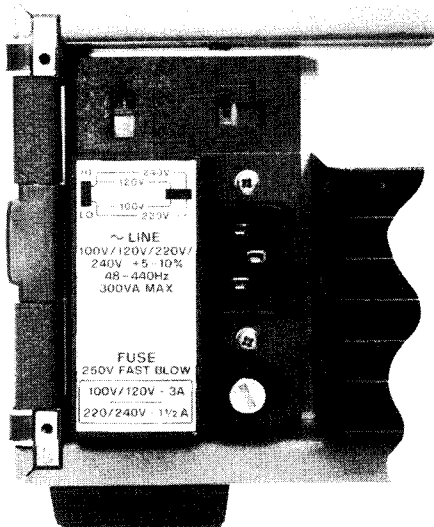

Figure 2-1. Line Voltage Selection Switches
- b. Using a blade-type screwdriver, position rear-panel LINE voltage select switches for desired Vac input. (Figure 2-1 shows switches set for 120 Vac operation.)